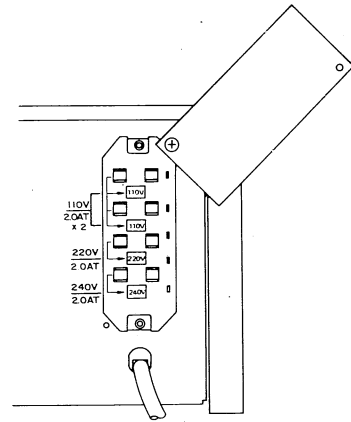

Figure 1
AC VOLTAGE SELECTION (Refer to Figure 1)
2. Loosen a screw and slide the cover as illustrated in Fig. 1.